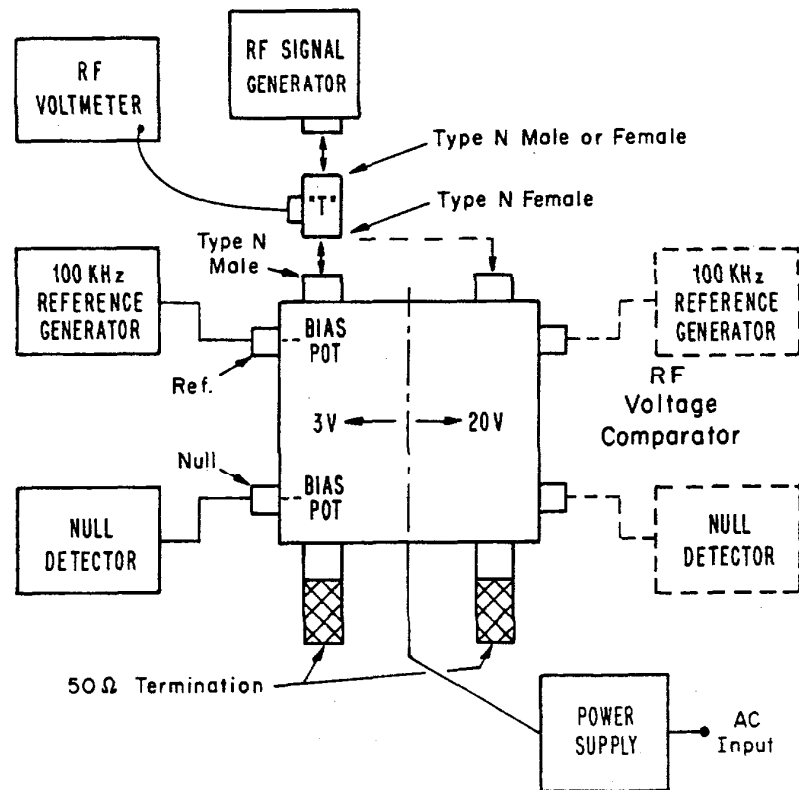

Figure 9. Block Diagram for Calibration of RF Voltmeters (0.01-20V)
- c. Connect the equipment as shown in figure 9.
- b. Connect the equipment as shown by the dotted lines in figure 9.